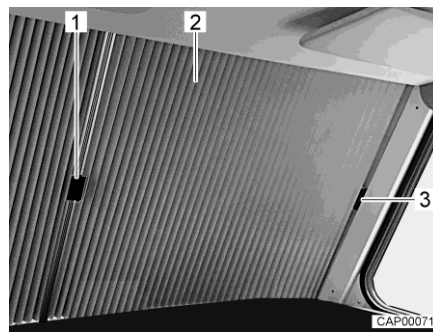

Fig. 7 Roman shade for windscreen (closed)
- Push the respective handle (Fig. 7,1) of both halves of the Roman shade (Fig. 7,2) outwards, underneath the cover on the A column.
- Fix the handles respectively by plugging them onto the cover (Fig. 7,3). Thus, the windscreen shade is secured against closing involuntarily during the journey.